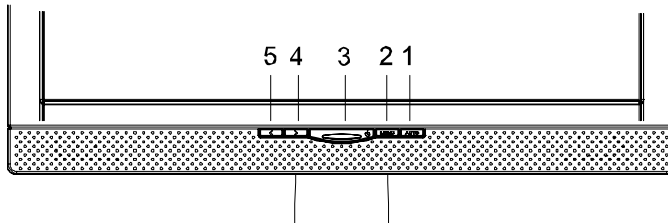

Figure 4. Monitor features
1. First start your PC and then turn on your monitor using the power switch (ⓘ in fig. 4).
The status indicator (ⓘ in fig. 4) should light up green.
You can adjust the image settings (such as brightness, contrast, image position, phase, etc.) manually or by using the LCD monitor’s automatic image adjustment feature. This will adjust the image parameters to their optimal settings for the current graphics mode. Press AUTO (ⓘ in fig. 4) to launch the automatic adjustment. The process will take a short while until completed.
You can adjust the speaker volume of the integrated audio system directly by pressing the ► buttons (④ in fig. 4) while the OSD menu is inactive. Next press the ► button to increase the volume or the ◀ button to decrease it.
You can adjust brightness and contrast directly by pressing the ◀ buttons (④ in fig. 4) while the OSD menu is inactive. Next, press the ◀ or ► buttons (④ and ⑤ in fig. 4) to adjust the brightness or the ◀ or ► buttons (④ and ⑤ in fig. 4) while the OSD contrast.
Press the **MENU** button (② in fig. 4) to display the OSD menu on the screen.
1. There are a total of 5 OSD submenus divided by categories. Select the desired submenu by pressing the ◀ or ▶ button (④ and ⑤ in fig. 4; see section “OSD Menu Functions”).
2. Press the button **MENU** (② in fig. 4) to activate the selected function or associated submenu.
3. If you selected submenu, now select the sub-function you want using the ◀ or ▶ buttons (④ and ⑤ in fig. 4).
5. Press the **MENU** button (② in fig. 4) to save the setting. Repeat setups 2-5 to make further adjustments as needed.
6. The OSD menu automatically disappears if no changes are made for more than 20 seconds (default setting). The current settings will be saved. You can close it manually by pressing the **AUTO** button (① in fig. 4).